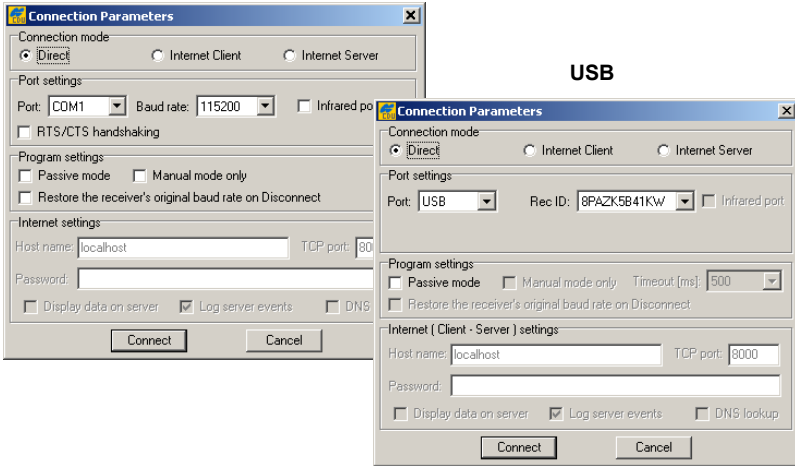

Figure 3-20. Connection Parameters
4. On the *Connection Parameters* dialog box, select the following parameters (Table 3-8), and click **Connect** (Figure 3-20).